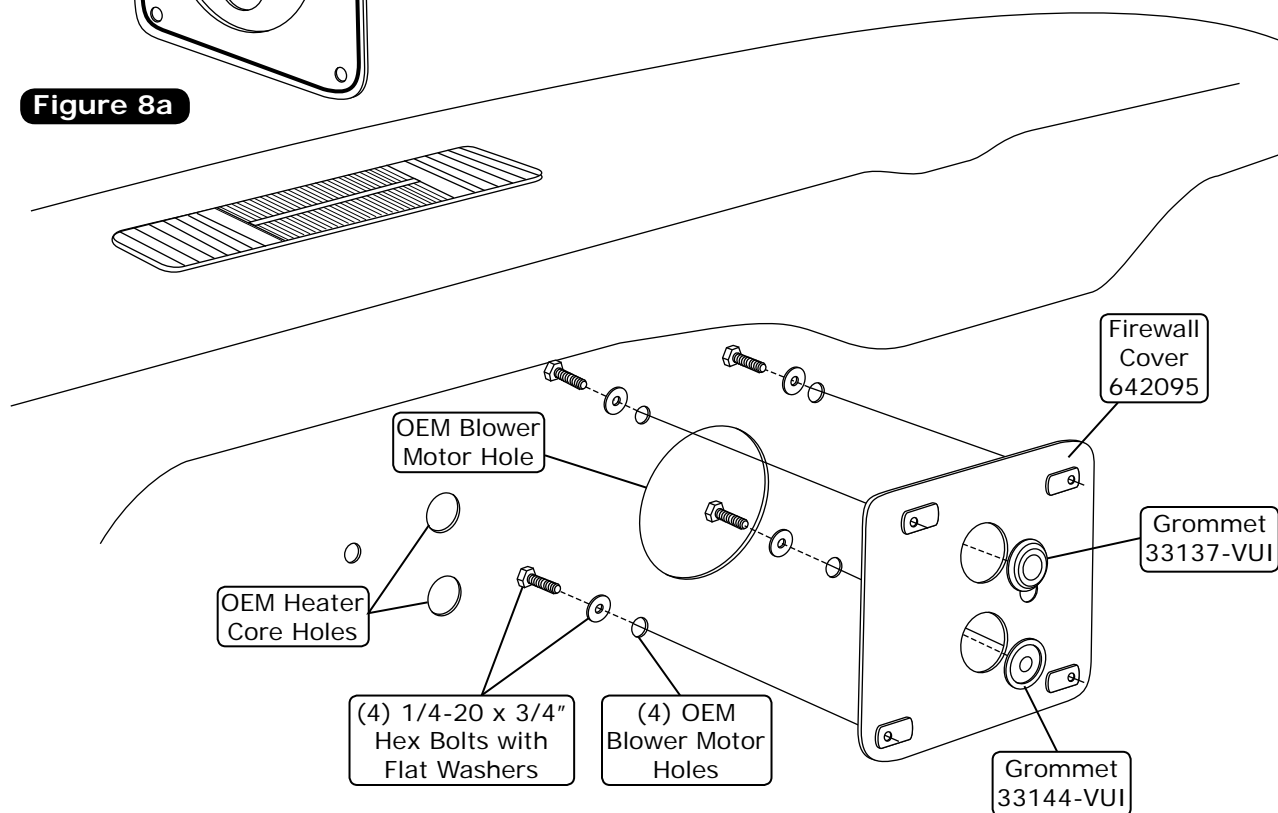

Figure 8
2. From inside the car, install the firewall cover onto the firewall. From the engine compartment, secure the firewall cover to the firewall using (4) 1/4"-20 x 3/4" hex bolts with flat washers. After installing the firewall cover, use silicone or seam sealer on the engine compartment side to seal around the blower hole (See Figure 8, below).
3. Install (2) rubber grommets into the firewall cover as shown in Figure 8, below.